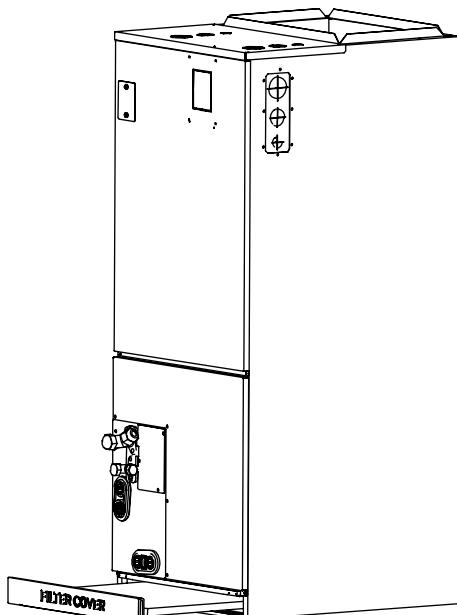

**Fig. 1-1: Remove Upper Front Panel**
2. Open the upper front panel. See Fig. 1-1.